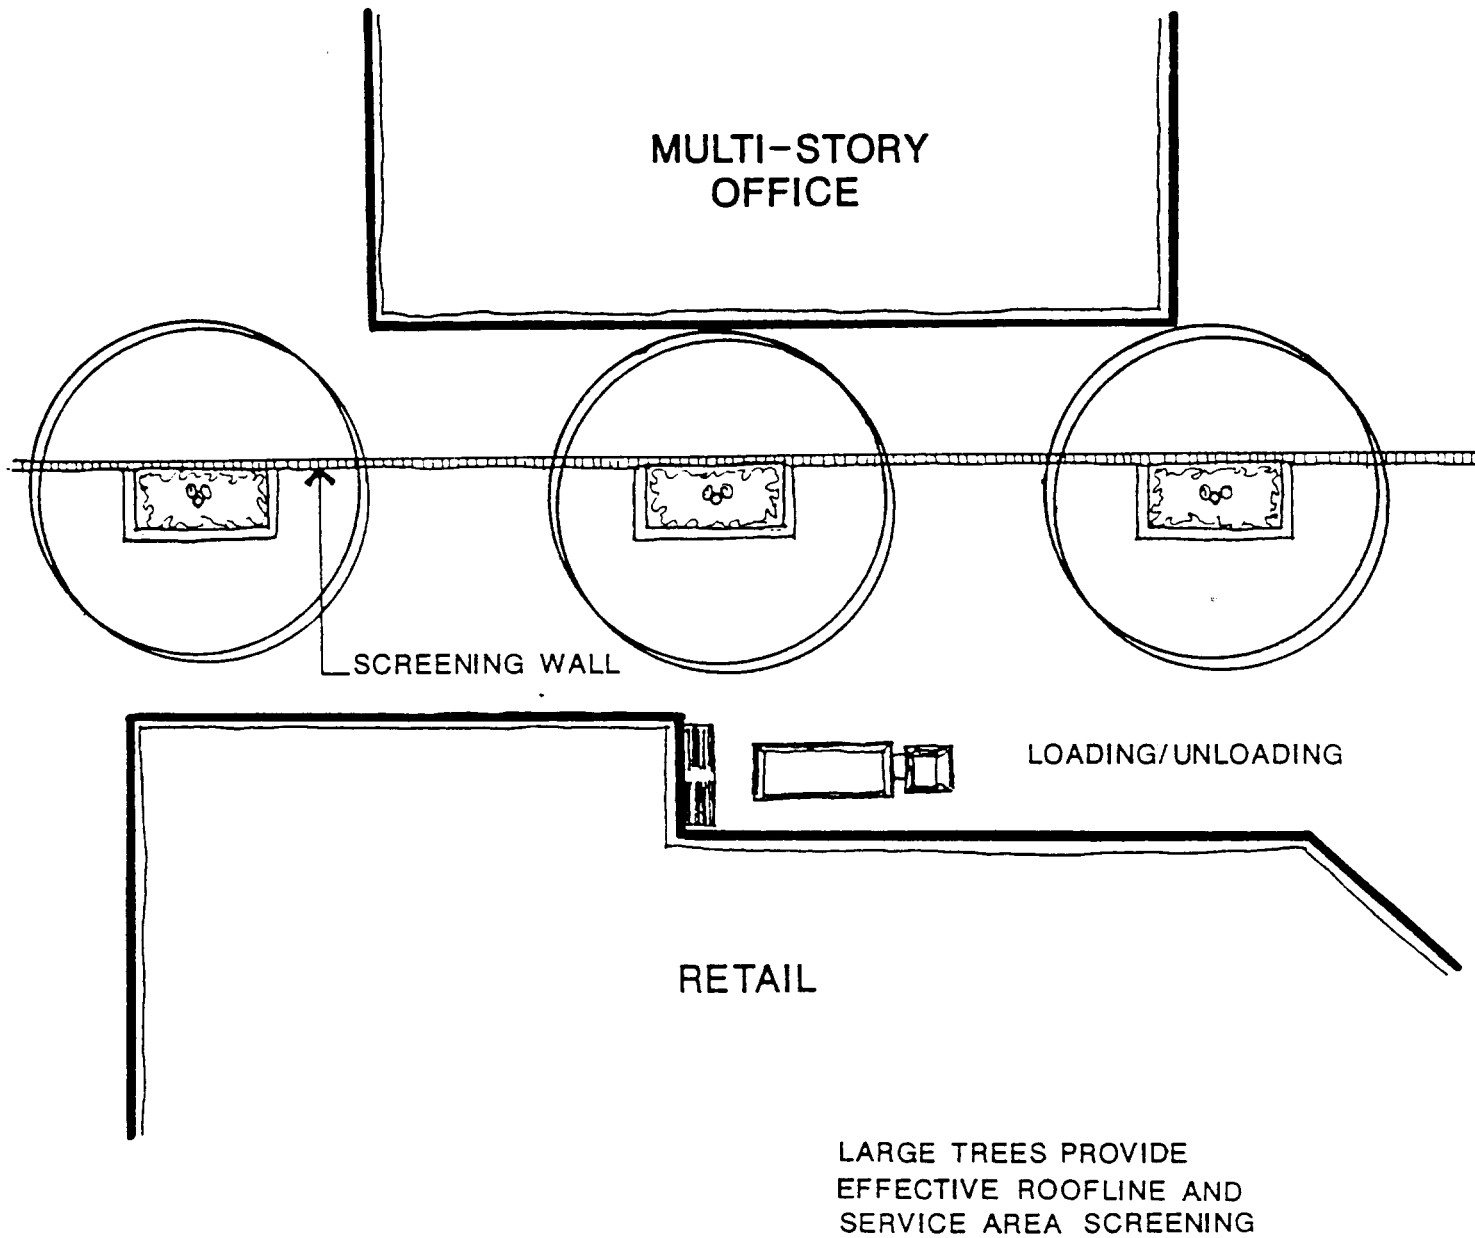

FIGURE 15
- Service areas should be screened from adjacent two-story residences or multi-story office developments by landscaping or a six foot masonry wall in conjunction with landscape screens. Continual maintenance should be provided for screening walls and landscaped screens. If the height of the building is 15 feet or more, four inch caliper trees should be required spaced 30 feet along the rear screening wall or spaced 50 feet apart if an irrigation system is provided. (See Figure 15.)
- Landscaping should be used in conjunction with screening walls when multi-story buildings abut an adjacent property where topography lessens the effect of a wall alone. Where a building exceeds 15 feet in height, 4" caliper trees shall be required, spaced every 30 feet along the wall or spaced every 50 feet apart if an irrigation system is provided. (See Figure 15.)